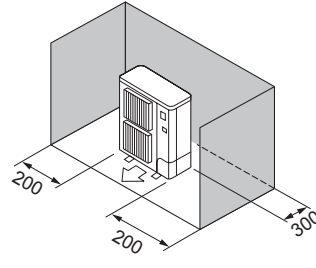

Fig. 2-5
- ③ Obstacles at rear and sides (Fig. 2-5)